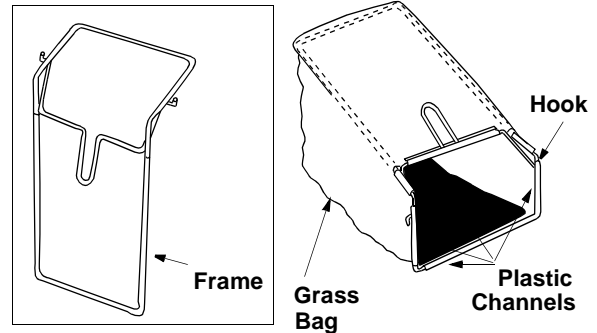

Figure 7
- Secure bag to frame by working the plastic channels on bag over frame as shown in Figure 7. All of the plastic channels except center top of bag attach from the outside of bag. Center top of bag attaches from the inside of bag.